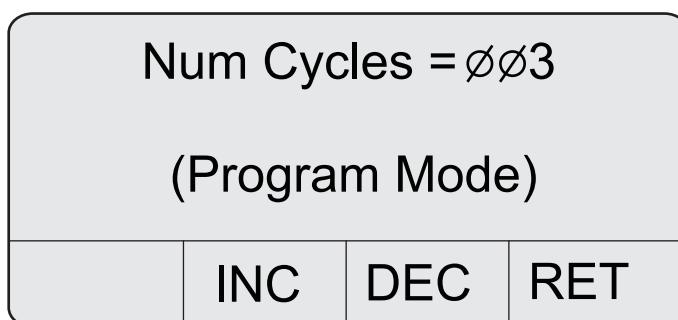

Figure 16 Num cycles screen in program mode
5. Press **4 (RET)**. The Num Cycles screen is displayed in the Program mode (refer to Figure 16).